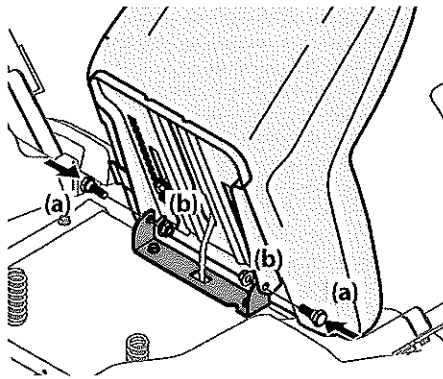

Figure 2-9
3. Rotate the seat into position and secure the seat into place with the previously removed shoulder screws (a) and flange lock nuts (b). Be careful not to crimp or damage the wire harness while installing the seat. See Figure 2-9.